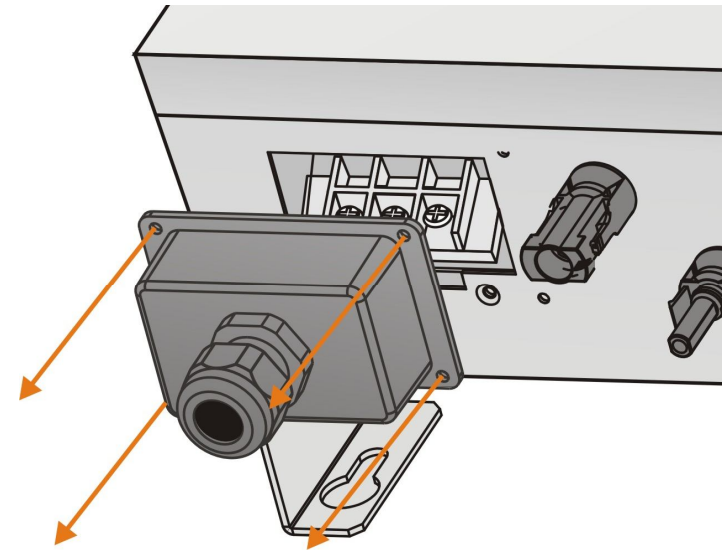
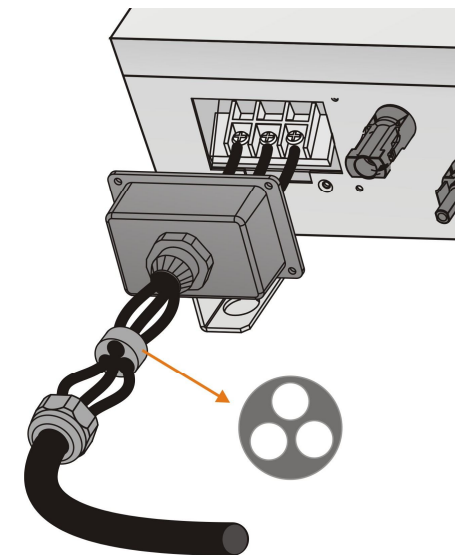
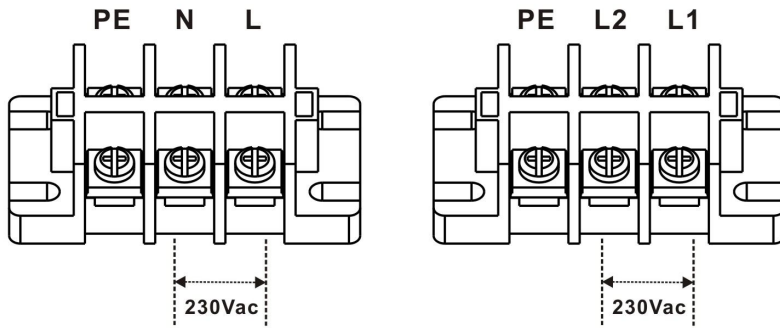

Figure 2
Figure 3
Figure 4
Step3: As shown in Figure 2, remove the cover of AC output. Follow the steps in Figure 3 to set the AC output wiring by using the recommended wire diameter. You can follow the instructions in Figure 4 to adopt different wiring methods for the desired output voltage.